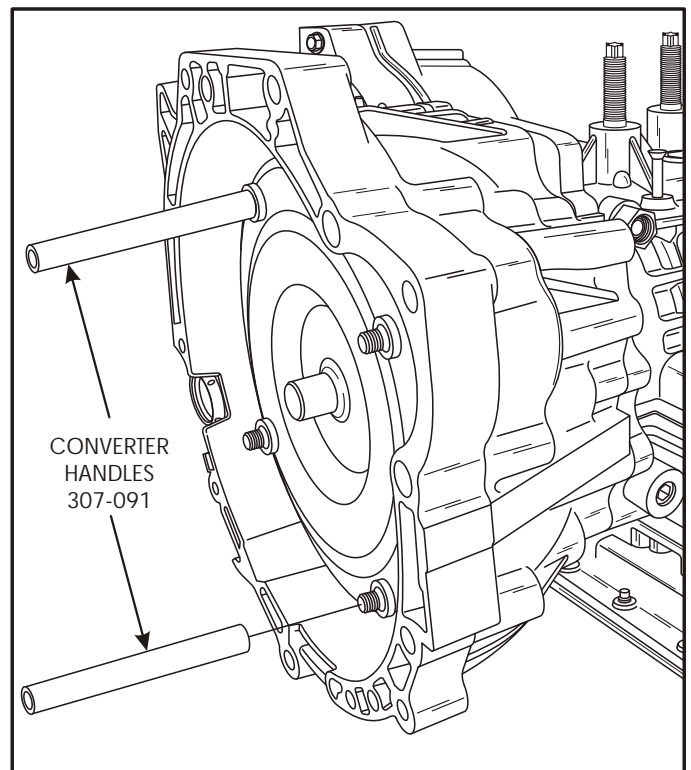

Figure 195
10. Lubricate the converter hub and install torque converter using the 307-091 handles as shown in Figure 195.